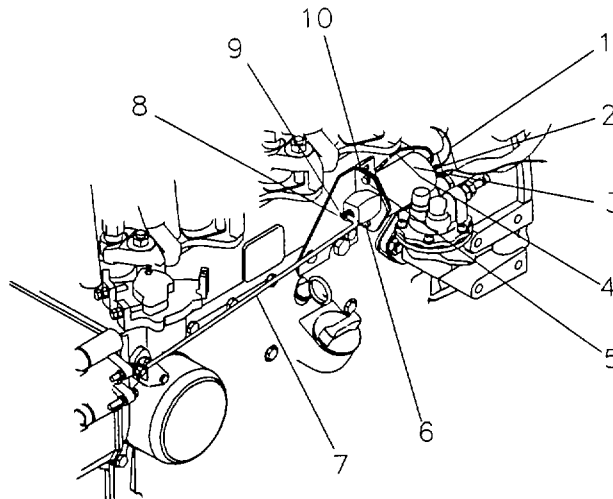

Figure 4-15. Fuel Control Solenoid.
a. Removal. Refer to figure 4-15.
- 1) Tag wires (1), remove the two screws (2) and remove wires (1) from the fuel control solenoid (3).
- 2) Remove the cotter pin (9), washer (8) from the push/pull rod (7) and withdraw the push/pull rod (7) from the fuel control solenoid (3).
- 3) Remove the top bolt and nut (5) holding the fuel control solenoid (3) and the black solenoid ground wire (4) to the backplate (10).
- 4) Remove the bottom bolt and nut (6) and remove the fuel control solenoid (3) from the backplate (10).
b. Installation. Refer to figure 4-15.
- 1) Install the fuel control solenoid (3) and secure to backplate (10) with bottom bolt and nut (6).
- 2) Install black solenoid ground wire (4) and secure to backplate (10) with top bolt and nut (5). Torque top bolt (5) to 5 ft. lb. (7.0 Nm).
- 3) Install push/pull rod (7), washers (8) on to fuel control solenoid (3) and secure with cotter pin (9).
- 4) Install wires (1) on to fuel control solenoid (3) and secure with screws (2).